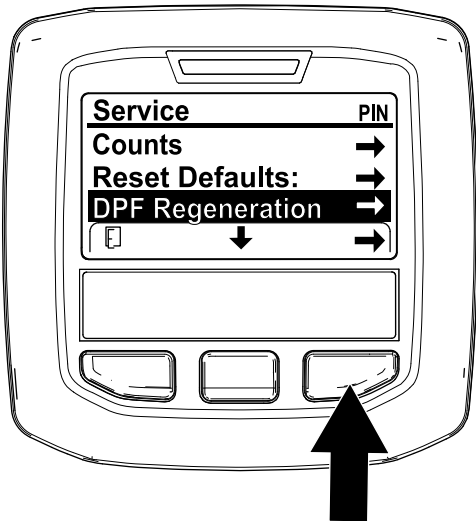

Figure 32
- 1. Access the Service menu, press the center button to scroll down to the DPF REGENERATION option (Figure 32).
- 2. Press the right button to select the DPF Regeneration entry (Figure 32).